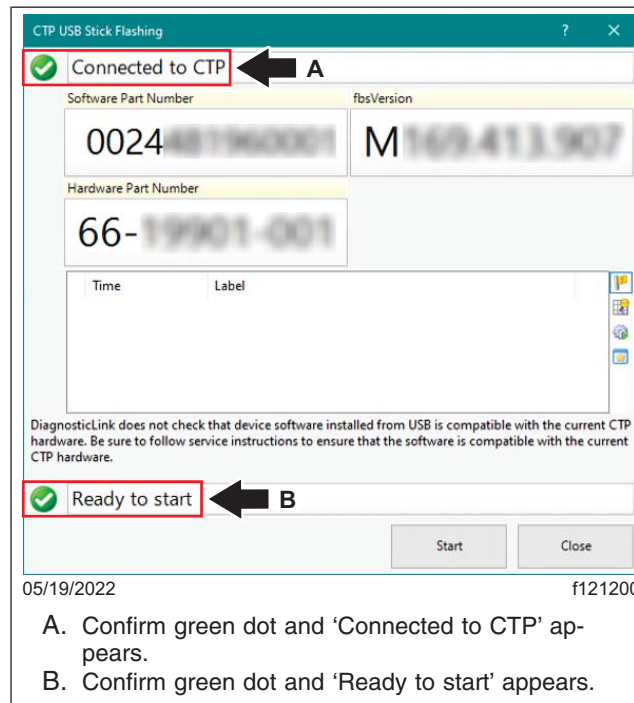

Fig. 9, CTP USB Stick Flashing Window
11. In the 'CTP USB Stick Flashing' window that appears, verify that a green dot appears beside 'Connected to CTP' on the top, a green dot appears beside 'Ready to start' at the bottom. See Fig. 9.